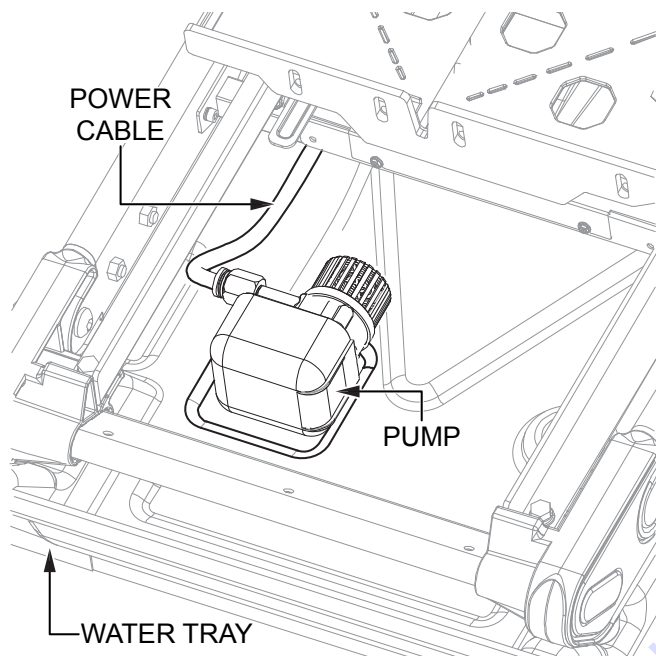

Figure 7. Water Pump Installation
- Place the water pump into the rectangular depression in the water tray and route the pump power cable toward the rear of the saw along the left edge of the water tray (Figure 7). **MAKE SURE** the cable is routed **beneath the saw**, so that it will not interfere with the motion of the cutting table.